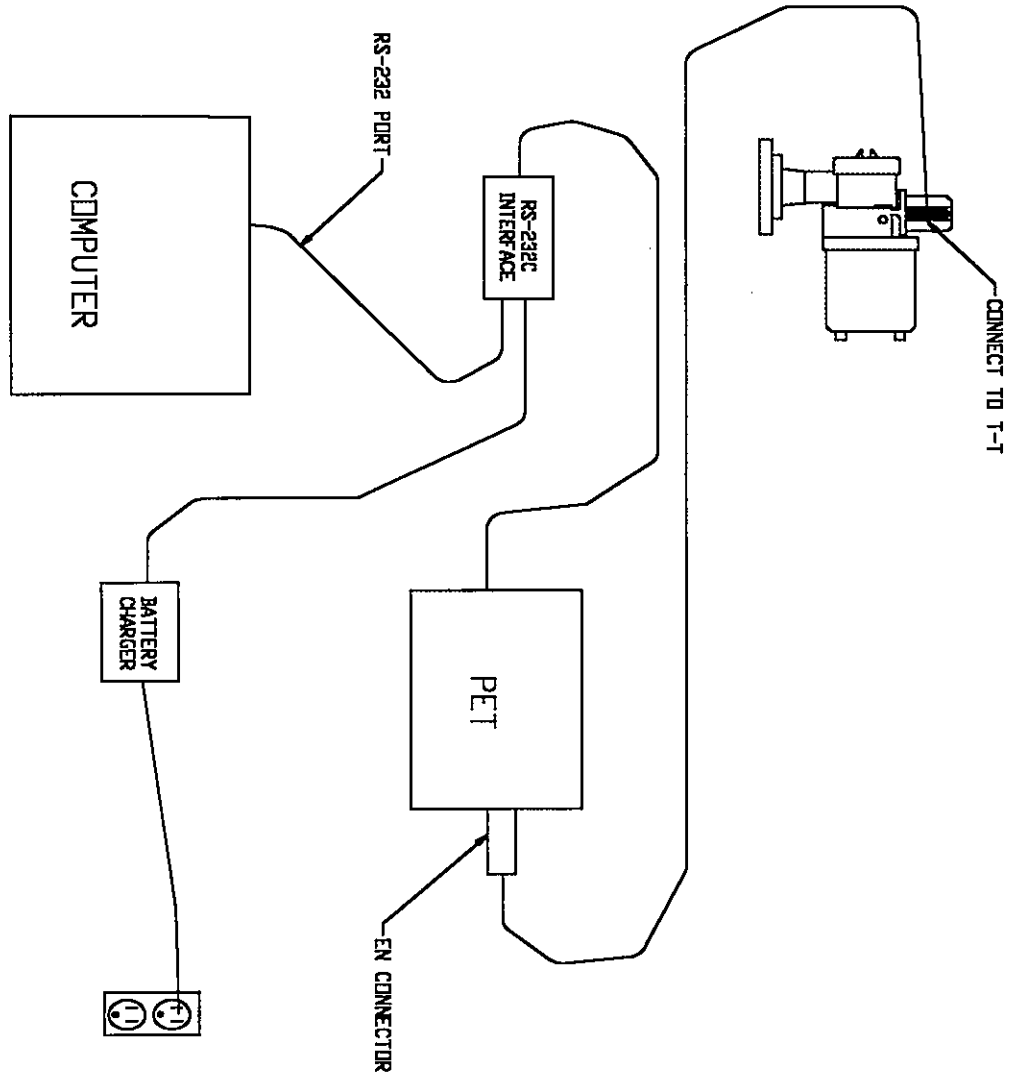

FIGURE 1
3. Disconnect the infrared connector, and connect the computer and PET to the gauge per Figure 1. Power up PET/gauge as required.